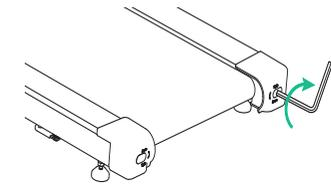

Figure 2
- If the walk belt has shifted to right, use the hex tool to turn the right idler roller screw clockwise $\frac{1}{4}$ of turn (refer to figure 2).